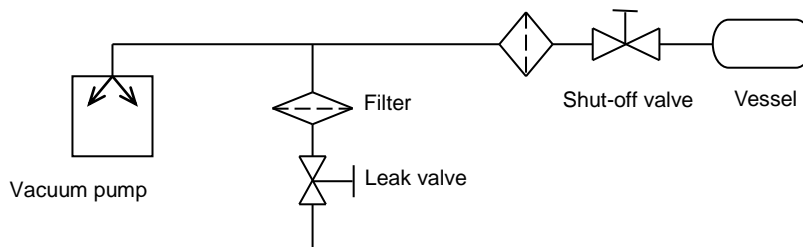

Fig.3-1 Piping Example with Vessel and Vacuum Exhaust
- 5) When evacuating a vessel, ensure that a shut-off valve is placed between the pump inlet pipe and the vessel (see Fig.3.1).